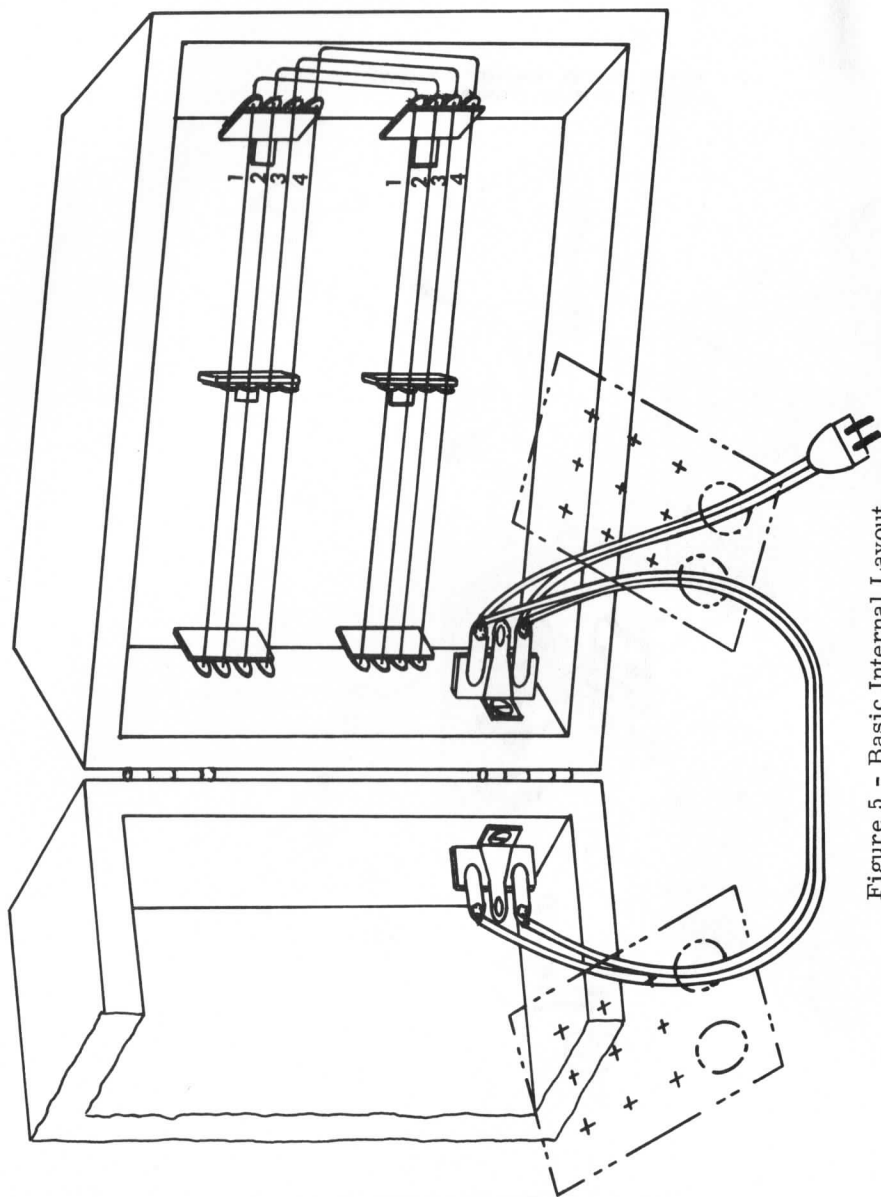

Figure 5 - Basic Internal Layout
During the following steps, refer to figure 5 for internal layout and wiring.
- () Cut a 5" length of the insulated wire provided and prepare it by stripping 1/4" of insulation from each end. Connect one end of this wire to Lug #1 of the upper buss rod assembly at one end. (See figure 5.) Connect the remaining end of the wire to Lug #1 of the lower buss rod assembly. Solder both connections.
The dual section road style case uses two of the basic arrangements to form a unit which will fold in half and latch to itself to provide a portable, protective enclosure for the modules. In this configuration, the 4761 front panel in each module case needs to be mounted in the lower corners nearest to each other when the case is open. (See figure 5.) This will allow the easiest means of jumping power from case to case. Extra hardware will also need to be mounted if the case is to be closed, latched and carried.
- () After determining the corner location of the 4761 front panel, mount the three-lug terminal strip on the case side nearest the panel location. (See figure 5.) Mount the terminal strip about half way between the front and rear of the module space, using a #4 X 3/8" screw.
- () Arrange the two cabinets so they are facing each other with the case bottoms (the rubber feet are mounted on the bottom) facing the same direction. Locate the hinges on the case sides directly between the 4761 front panels when the case is opened. Mount the hinges about 1-1/2 inches in from the top and bottom of the cabinet using four #6 X 3/8" screws for each hinge. (See figure 5.)